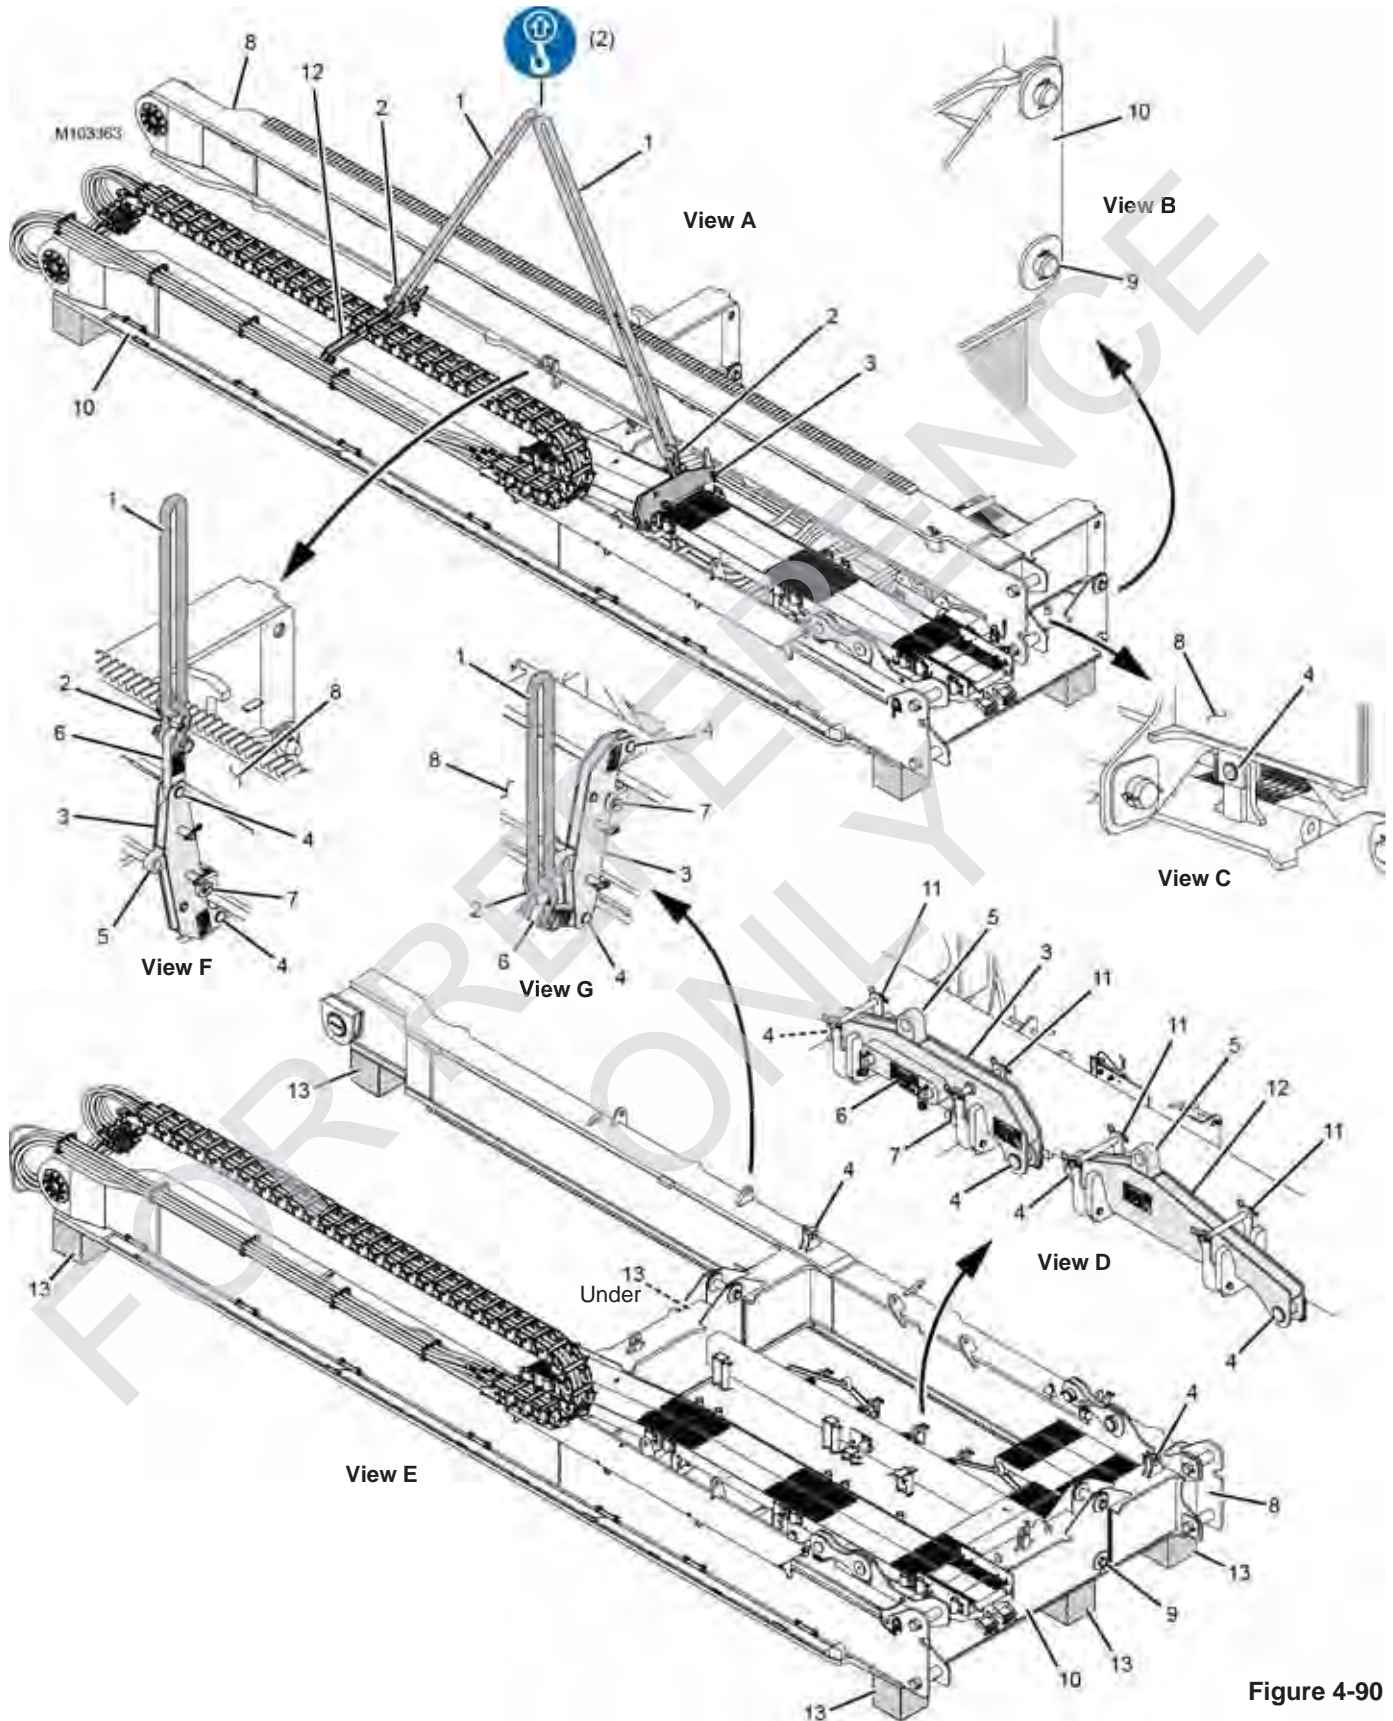

Figure 4-90
2. Remove the quick-release pins (8, View B), slide the latches (5) forward off the pins (4), and rotate the latches up and out of the way.
3. Lift the VPC-MAX beam (3, View C) straight up so the spherical bearing carriers (7, View D) disengage the VPC trolley (6).
4. Place the VPC-MAX beam on blocking as shown in Figure 4-90 on page 4-160.
5. Close the latches (5, View B) and install the quick-release pins (8).
- Folded (View A, Figure 4-90)
See Figure 4-90 for the following procedure.